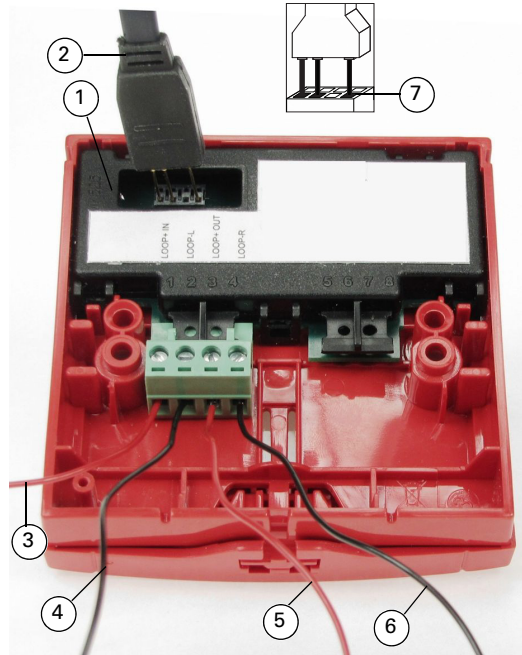

Fig. 2: FC420CP-I Rear View and Wiring Information
The FC420CP-I is programmed with the address prior to installation using an address programming tool. The associated ancillary programming lead plugs into the programming port (see Items 1 and 2 in Fig 2). Refer to Fig 2 for proper orientation.
Ensure that the pins of the ancillary programming lead are inserted completely into the lower row of the programming port (see item 7 in Fig 2) for effective communication with the Address programming tool.
- All conductors to be free of earths. For typical wiring configuration see Fig. 2.